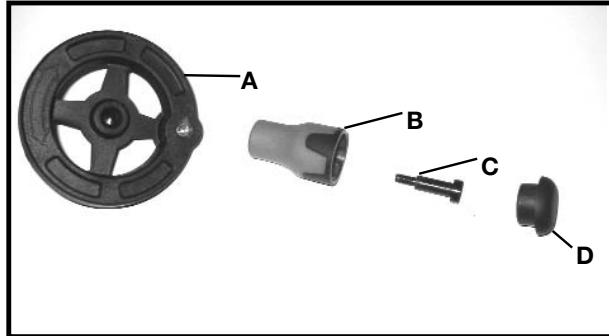

Fig. 10
1. Insert special screw (C) through handle (B) Fig.10 and assembly handle to handwheel (A) by threading screw clockwise into handwheel. Then push on handle cover (D).